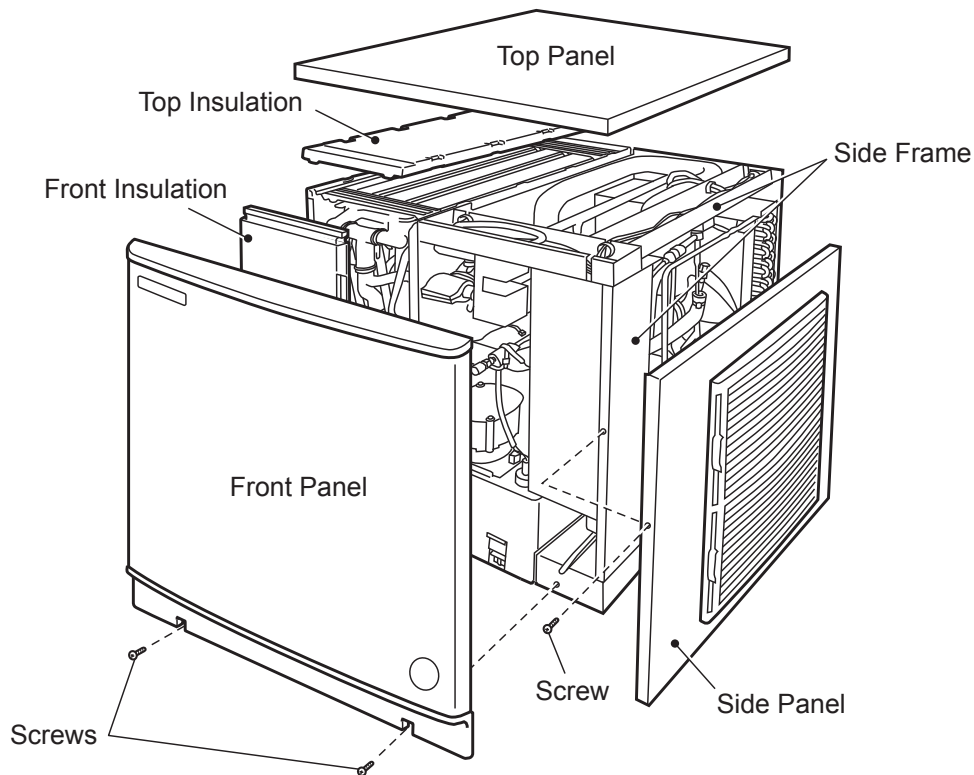

Fig. 1
B. How to Remove Panels - See Fig. 1
- Side Panel (R): Remove the screw. Slide forward slightly and lift off.
Do not use the side frame to lift the icemaker. See Fig. 1. Lift the icemaker from the base.